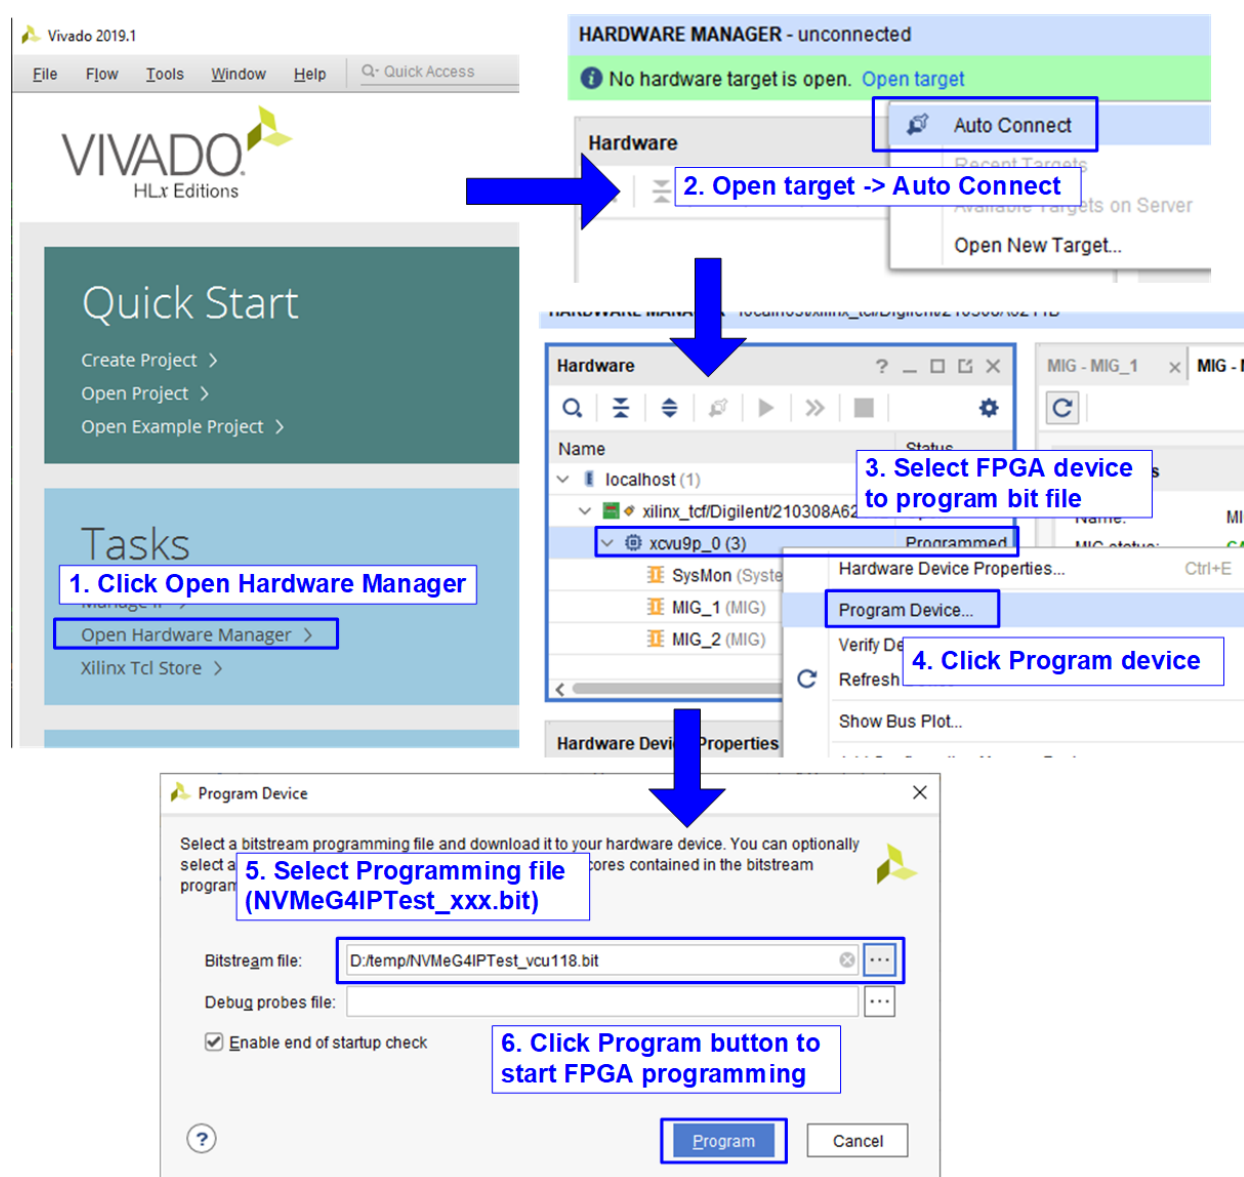

Figure 2-6 Programmed by Vivado
6) Download configuration file and firmware to FPGA board by using Vivado, as shown in Figure 2-6.